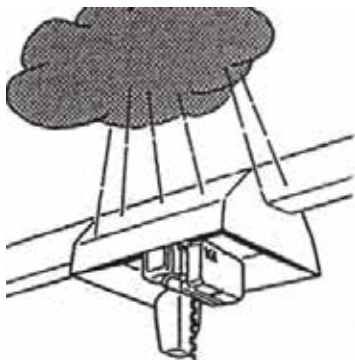

fig.62
- **ALWAYS** ensure that the hoist operates in an environment protected from the elements (rain, wind, snow, etc.) or, if used outdoors, that it is fitted with adequate shelter or protection. (fig.62).